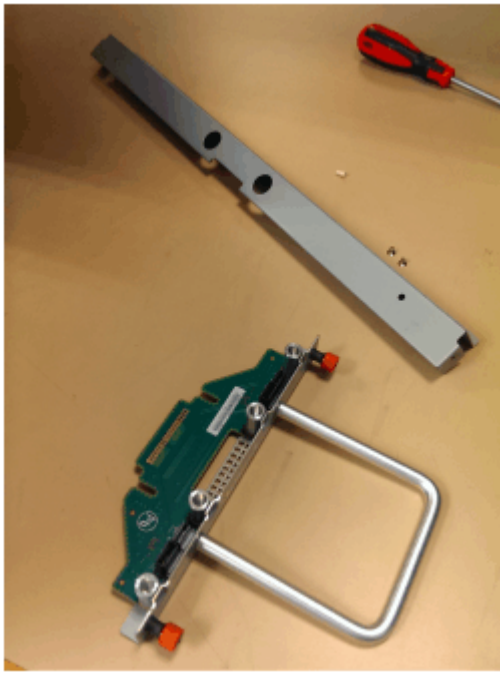

Figure 172. FIB parts removed from the chassis
4. Place the FIB (shown in Figure 172 on page 208) in a safe location.
6. Assemble the new FIB, cover, and the cover screws in a safe location as shown in Figure 172 on page 208.